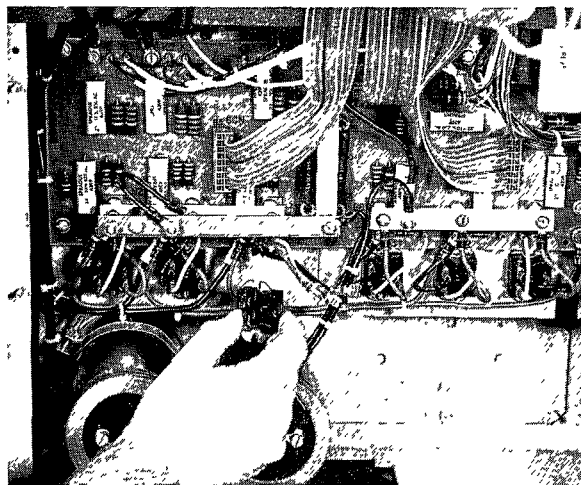

FIGURE 38A
4. Remove the two machine screws with flat and lock washers that hold the transistor. Lift out the transistor. (see Fig. 38A)